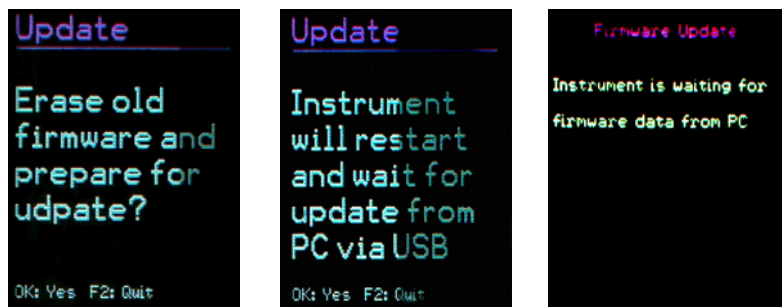

Figure 31: Firmware update
6. Within the VM23 “Instrument Settings” select the option “Update Firmware” and confirm the warning and subsequent message by pressing OK. By carrying out this step the old firmware is deleted. The VM23 will then indicate that it awaits new firmware data from the USB port (Figure 31).